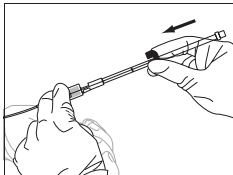

Figure 3
- Stabilize position of introducer needle and carefully advance spring-wire guide into vessel using spring-wire guide handle (refer to Figure 3).